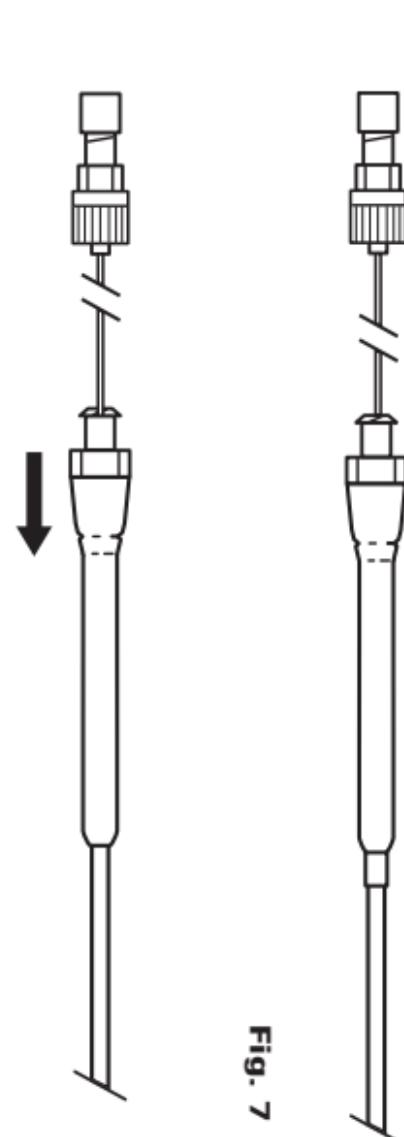

Fig. 6
- b. Pry upward until the locking cam lever is free. (**Fig. 6**)